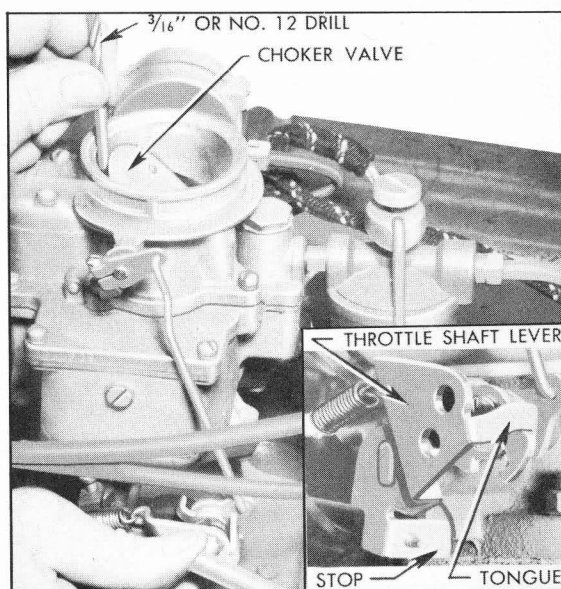

Fig. 3-39—Choke Unloader Adjustment—Carter
If the engine becomes flooded for any reason, the choker valve can be partially opened by depressing accelerator pedal to the full extent of its travel. This causes a tongue or arm on the throttle lever to contact and rotate the fast idle cam, which forces the choker valve open. See figure 3-39.
4. Open throttle until the stop on throttle shaft lever strikes the stop on throttle body, hold choker valve closed as far as possible, then check the clearance between the wall of air horn and the center of upper edge of choker valve using a $\frac{3}{16}$ " or No. 12 drill as a gauge (.187" to .189"). See figure 3-39.